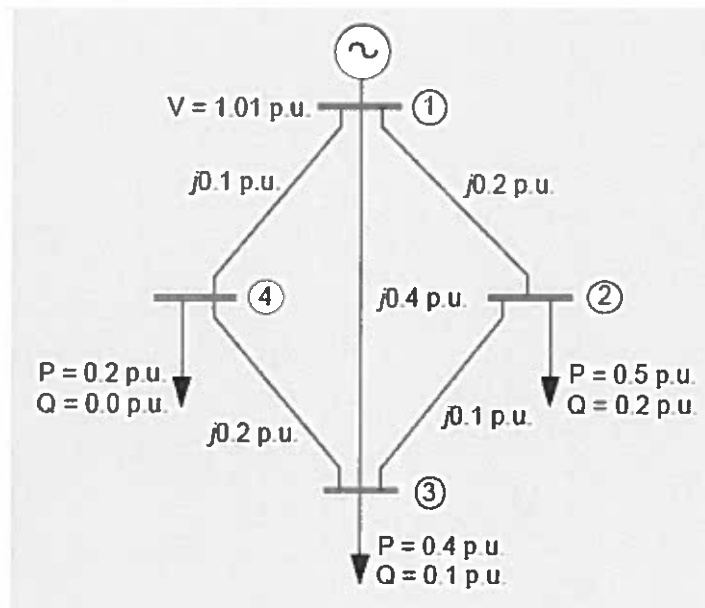

Figure 3.1: Network diagram and data
- d) In Figure 3.1, the reactances of transmission circuits and bus bar loads are given in per unit using a common base